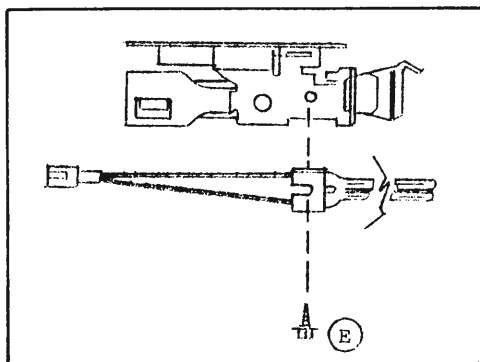

Figure 5-4
5. Remove screw (E) holding broken glo-bar to burner and replace glo-bar (See Figure 5-4).